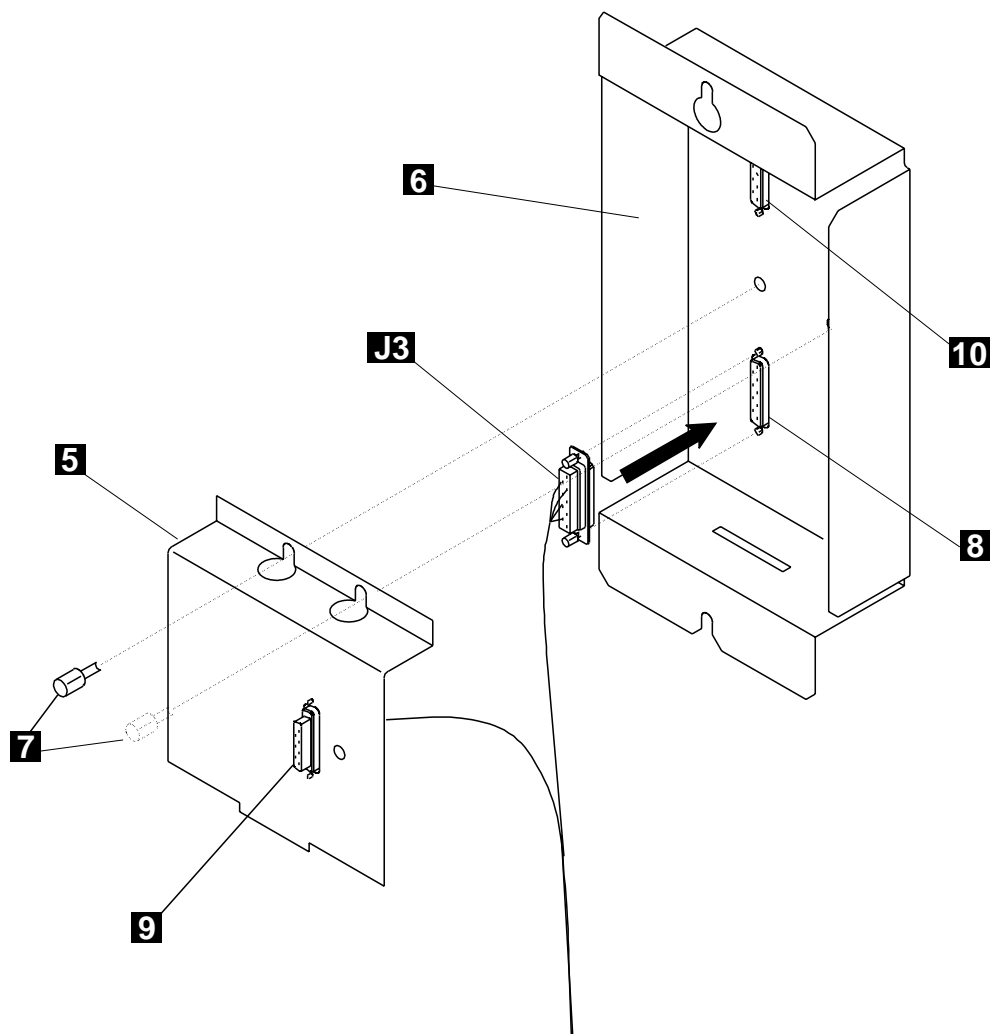

Figure 5.
- ___ 12. Remove the bracket **5** on the console tailgate **6** and the two screws **7** PN 1621191 (see Figure 5).